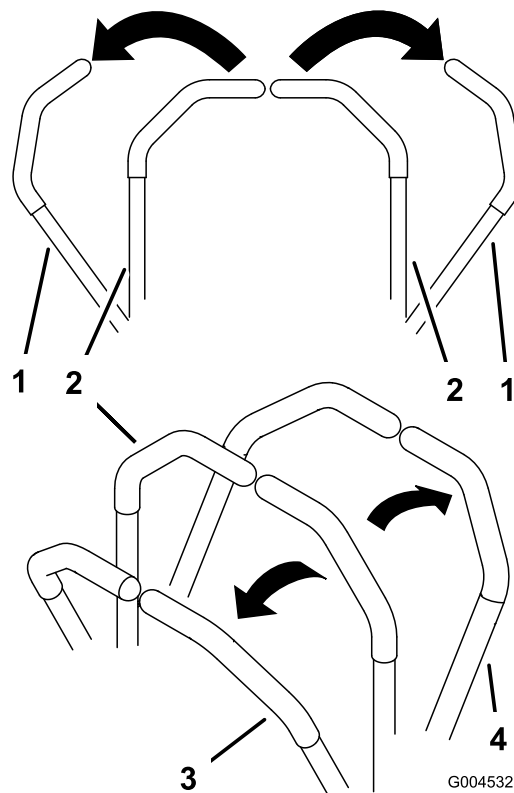

Figure 20
2. To go forward, slowly push the motion control levers forward (Figure 20).
To go straight, apply equal pressure to both motion control levers (Figure 20).
To turn, release pressure on the motion control lever toward the direction you want to turn (Figure 20).
2. To go backward, slowly pull the motion control levers rearward (Figure 20).
To turn, release the pressure on the motion control lever toward the direction you want to turn (Figure 20).